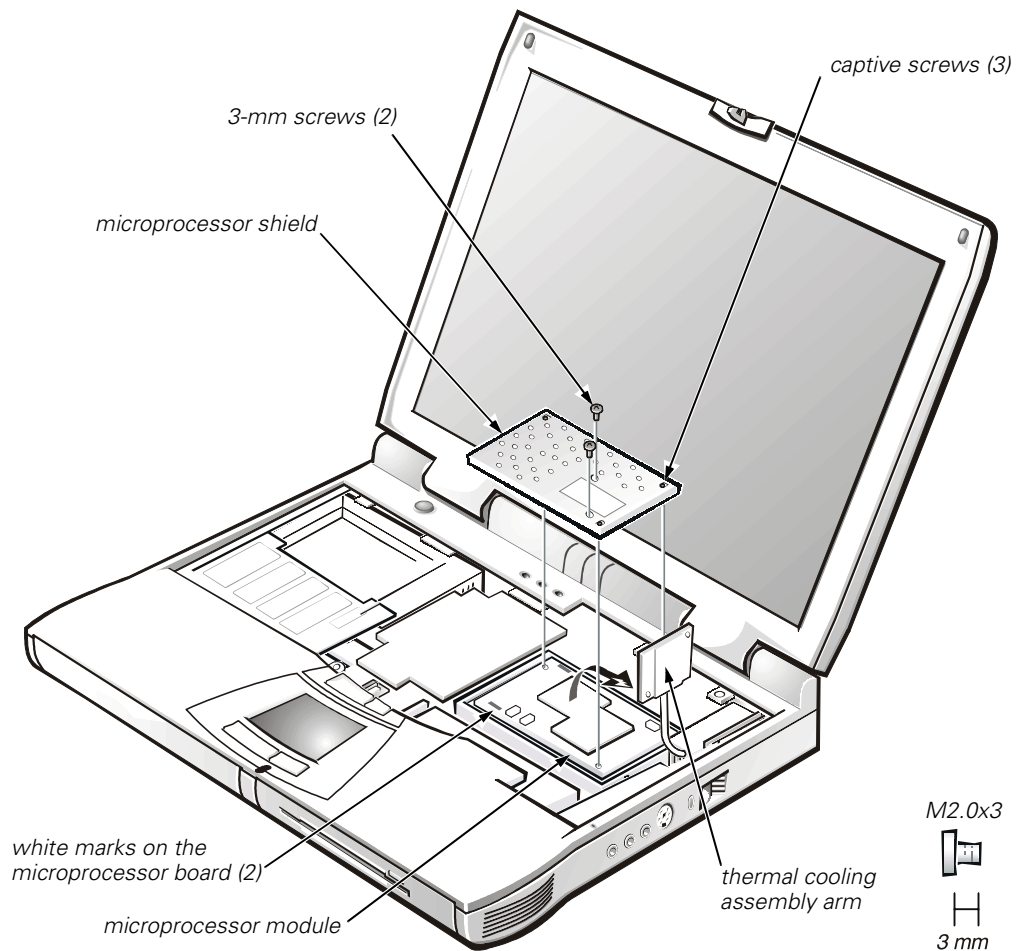

Figure 12. Microprocessor Module Removal
3. Remove the two 3-mm screws on the microprocessor shield that secure the thermal cooling assembly to the microprocessor module (see Figure 12).
The tool fits on the left side of the module aligned with white marks on the front and back edge of the processor board (see Figure 12).